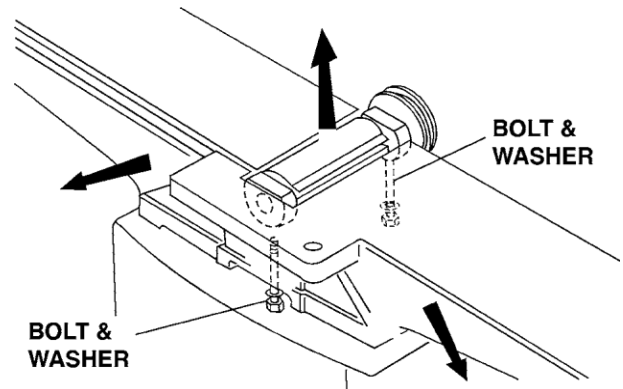

Fig. 19
5. Remove the two bolts and spring washers which secure the cutterhead to the base, as shown in Figure 19.